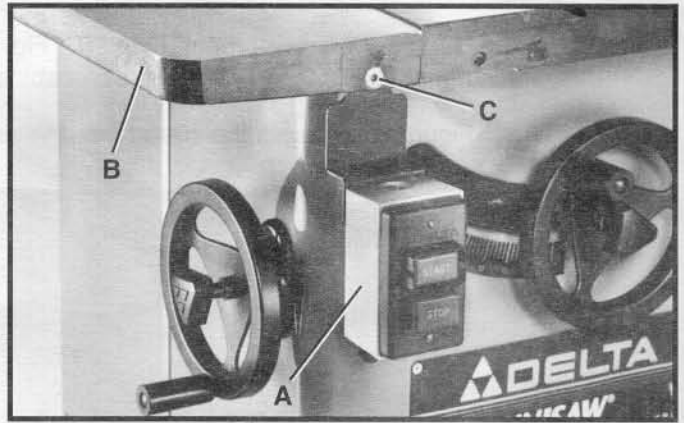

Fig. 10
2. Reassemble the switch bracket (A) Fig. 10, through the same hole to the inside lip of the extension wing using the hardware that was removed in **STEP 1**.